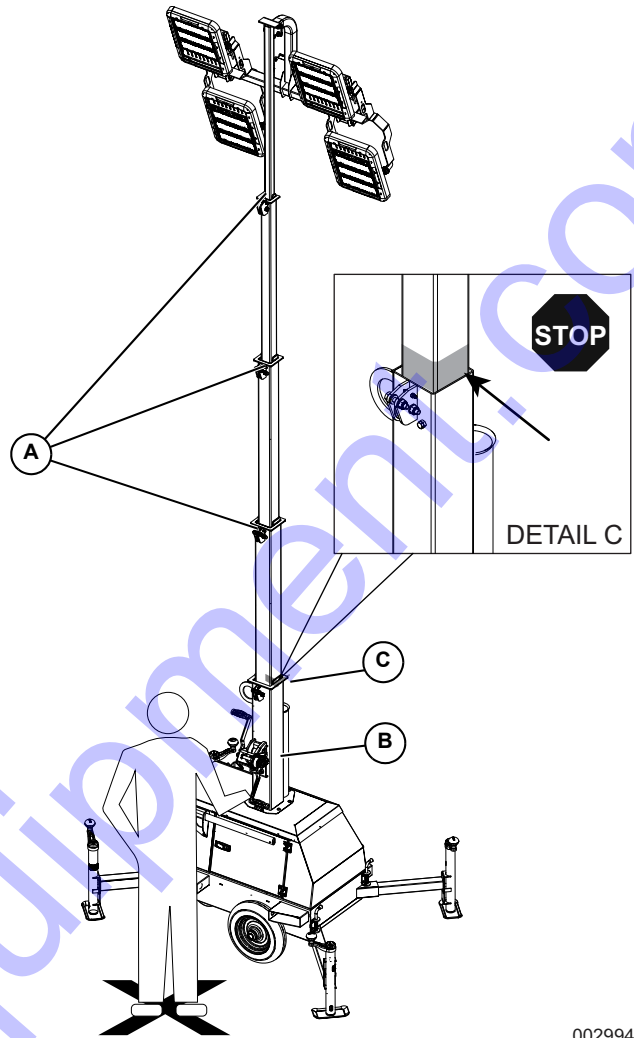

Figure 3-2. Pulley Locations
- See **Figure 3-2**. Check the mast cables for excessive wear or damage. Verify the cables are properly centered in each pulley (A). Check the electrical cord for damage.
- Stand, facing the winch, at the location indicated with the black "X" in **Figure 3-2**.
- Use the winch (B) to slowly extend the mast, making sure that the coiled electrical cord is extending at the top sections of the mast. STOP extending the mast when the colored mark (C) on the second mast section is visible as seen in Detail C.